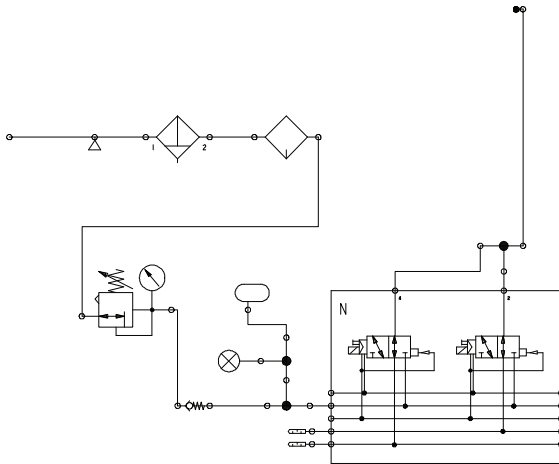

Figure 6 : Typical Air System Schematic
2.3.1 Refer to **Figure 6** for a typical air system schematic.